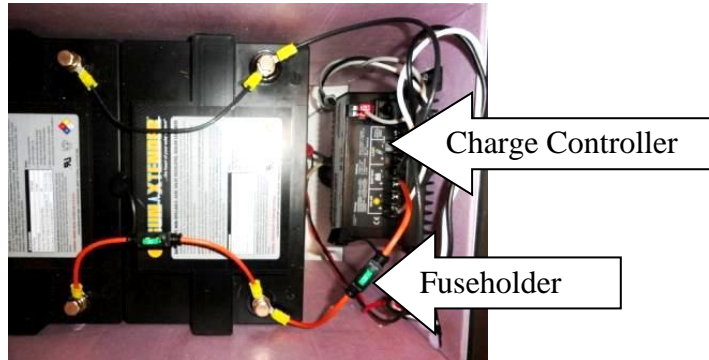

Figure 7a. Fuse Installation
2. Figure 7a illustrates a typical inline fuseholder. Install a fuse in each fuseholder. Note: When the fuse is installed for the battery closest to the charge controller, the system will start to operate, and some of the LEDs on the charge controller will illuminate.